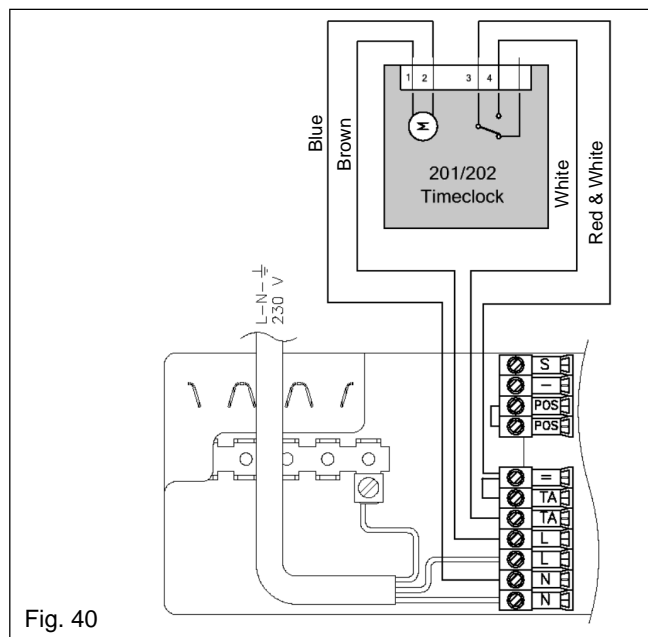

Fig. 40
8.4 VOKERA TIME CLOCK (see fig. 40)
- Take the wires supplied with the time clock and connect them as shown in fig. 40